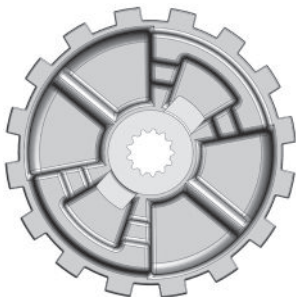

Figure 9 - Cam and Change Over Gear
Prior to re-assembly, check all parts for excessive wear, cracks and distortion. Replace parts as necessary and then re-assemble the unit in reverse to the order given above. The cam (16) should be positioned as shown below (use Figure 9 - Cam and Change Over Gear) when reassembling. Handwheel (18) should be rotated clockwise 90° - 135° before being engaged onto the drive shaft (2) splines. This action will load twisting spring (17). The above assembly steps should be maintained to ensure the free chain mode works properly upon re-assembly.